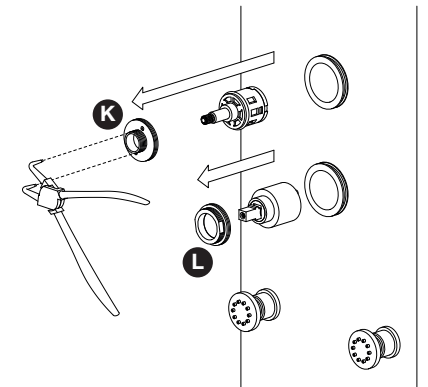

Fig.6
4. Using elbow-tipped pliers unscrew the nut K. With spanner number 28 unscrew the nut L (see Fig.6). Now you can remove the diverter and the single lever cartridge.